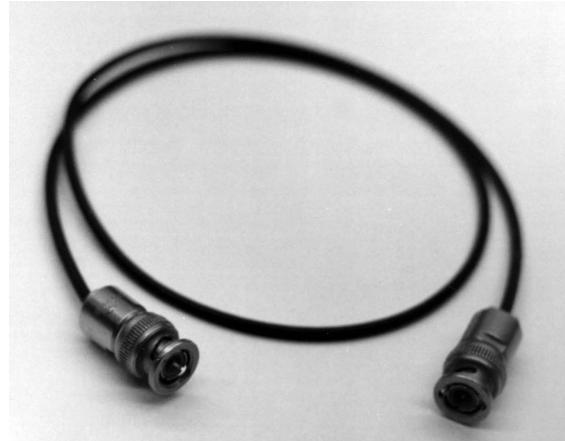

Fig. 17
- b) oscilloscope cable (Fig. 17).
- 4) If you are going to use an external oscilloscope, connect it with a cable to the OSC terminal (Fig. 24) located on the rear panel of the unit (Fig. 17).